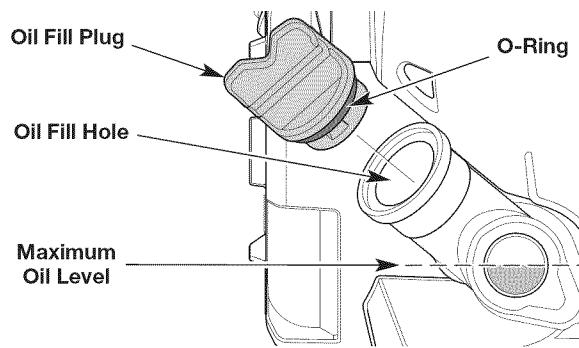

Fig. 20
3. Look into the oil level window; use a flashlight if necessary. **The oil level should fill the window approximately halfway** (Fig. 20). If the oil level is too low, add oil. Refer to Adding Oil.
1. Clean the area around the oil fill plug (Fig. 20) to prevent debris from entering the oil fill hole.
3. Add oil to the oil fill hole until the oil level is approximately halfway up the oil level window (Fig. 20).
NOTE: Make sure the O-ring is in place on the oil fill plug (Fig. 20).